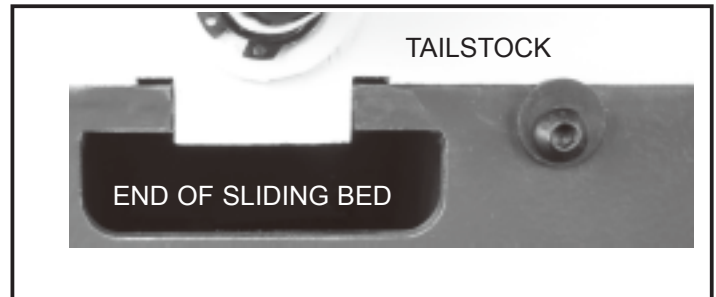

Fig.4.4.2
- At the right end of the Sliding Bed, with a 5mm hex wrench loosen the Bolt (#C25) so that the offset Stop Washer (#C7) swivels down below the bed surface. Fig. 4.4.2.